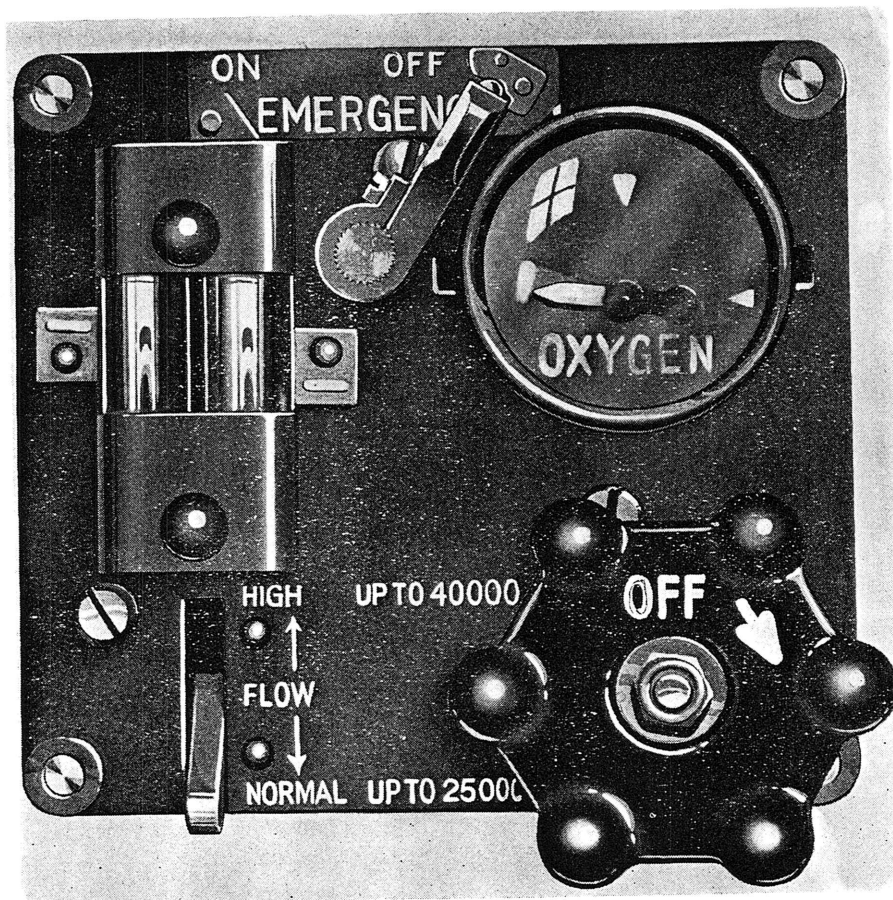

Fig. 1. Typical Mk. 11 series regulator
4. The principal components of a typical Mk. 11 series regulator (fig. 1) are housed in, or located on, a regulator body. A panel assembly attached to the body mounts the controls and indicators. The components and assemblies are as follows :—
**10.** The flow-change switch valve (fig. 1) is of the glandless type in which the usual spindle gland is replaced by a metallic low-pressure bellows, the seal being made by the upper end of the bellows. The valve is of a self-centring type which consists of a loose conical needle which is carried in the end of a spindle, and is held in position by a retaining washer. The valve is operated by a switch lever, the lever having two positions, marked **NORMAL** (up to 25000 ft) and **HIGH** (up to 40000 ft) respectively. The valve is open when the switch is in the **HIGH** position and closed in the **NORMAL** position of the switch lever. A spring is fitted on the outside of the bellows to provide a reasonable closing force for the valve.
**11.** The twin-tube flow indicator (fig. 1) provides a visible indication of the oxygen supply to the pilot. Each flow tube contains a float comprising two balls, the upper being of metal to provide control force, and the lower being of perspex to carry luminous fluorescent, or white compound. Separate inlets and outlets are provided at the top and bottom of each tube respectively, the top outlet being combined into one outlet in the regulator body. The indicator is provided with a front plate covering the bottom of both tubes so that the ball floats are obscured when there is no flow. Two horizontal, luminous marks on plates at the side of each flow tube determine the correct position of the lower balls when the regulator is in use.
12. The emergency flow valve is situated between the twin-tube flow indicator and the high-pressure contents gauge (fig. 1). The valve is operated by a control lever, coloured red, which is mounted on the front of the regulator. The valve is of the screw-down type, the seal at the flat metal seat being made by a Tufnol pad inserted in the end face of the valve spindle. The spindle is sealed by a gland nut and leather gland washer.